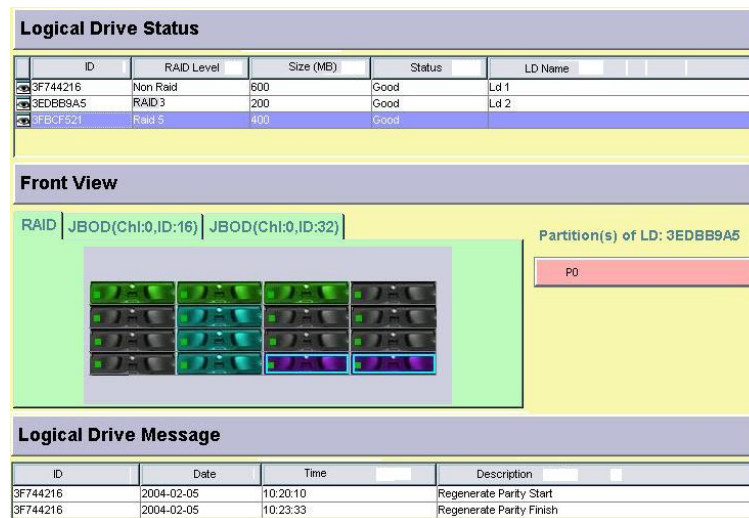

Figure 11-8: Opening Logical Drive Information Display
Step 1. To access the *Logical Drive Information*, single-click its display icon on the GUI navigation panel or select the command from the *Action* command menu. After opening the information window, select the logical drive with a single mouse-click. A display window as shown in *Figure 11-8* should appear.